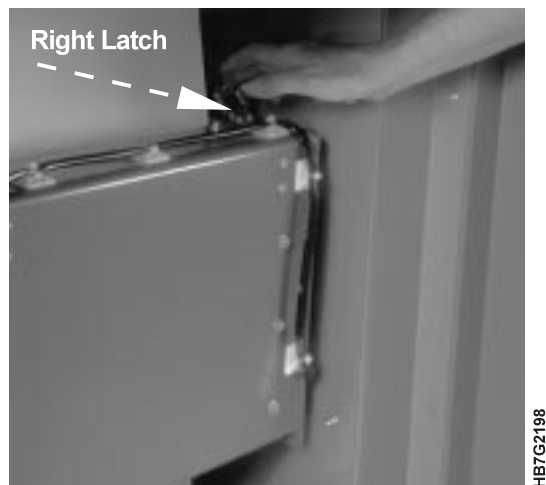

Figure 298. Cooling Unit Right Latch
- 17 Unlock the metal latch located on the right side of the cooling unit, as shown in Figure 298, and the metal latch located on the left side of the cooling unit.